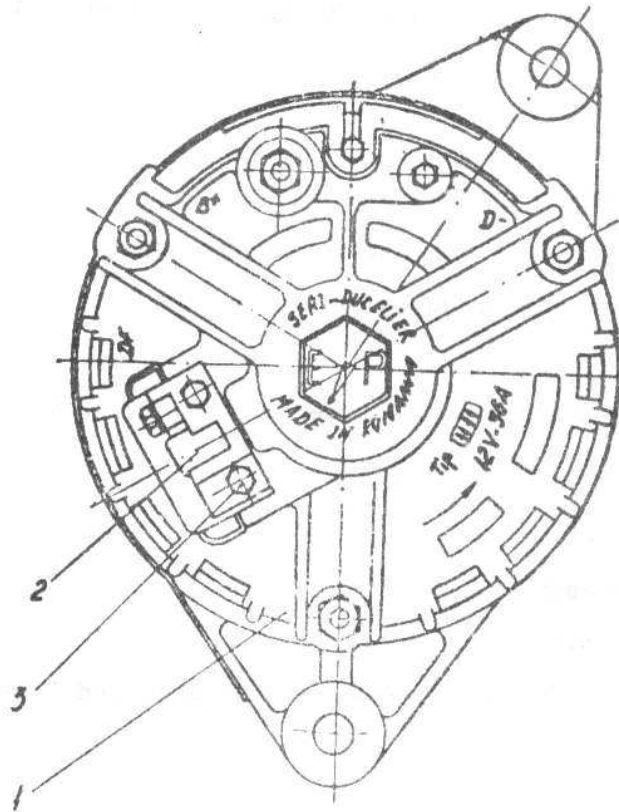

Fig. 4.37. FRONT VIEW OF ALTERNATOR (common with Fig. 4.26).
1. Alternator; 2. Voltage regulator; 3. Test lamp; (15) and (30): connecting leads to ignition switch respective terminals.
- To check the alternator field energising circuit, remove the alternator "DF" terminal plug and unscrew the two screws (3) - see Fig. 4.37, which fasten the brush holder assembly (2) on slip ring end shield.